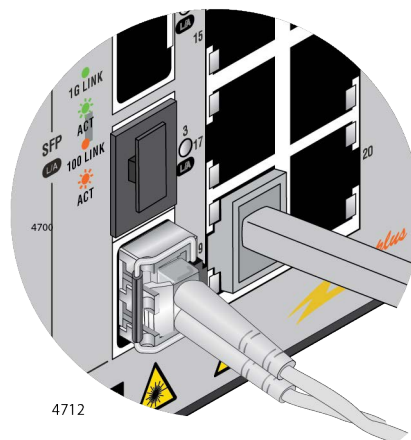

Figure 16. Spacing Between SFP Module and Copper Port
- ❑ The narrow spacing between SFP transceiver slots and adjacent copper ports can make it difficult to connect and disconnect cables. Refer to Figure 16 on page 62. Allied Telesis recommends installing and cabling SFP slots before cabling adjacent copper ports. You might need to use a flat tool to disconnect cables.